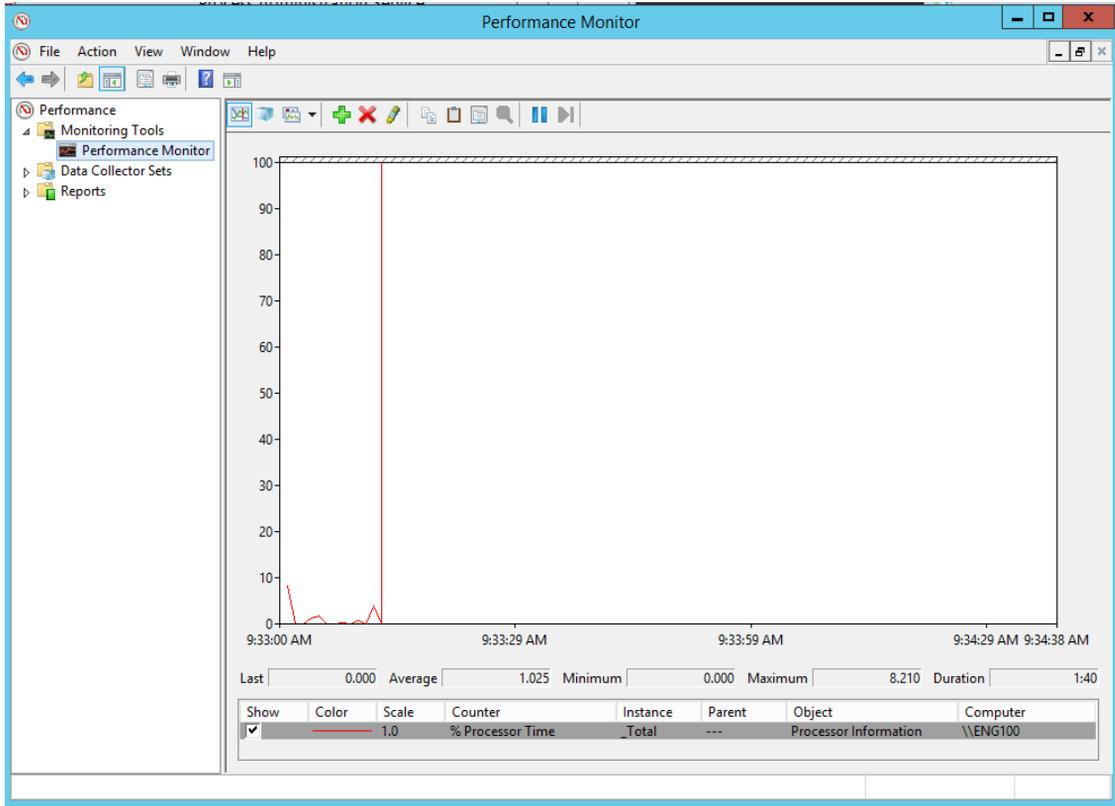

Figure 72. Adding a Counter
2. Right-click on the monitor, then choose **Add Counters...** from the context menu, Figure 72.